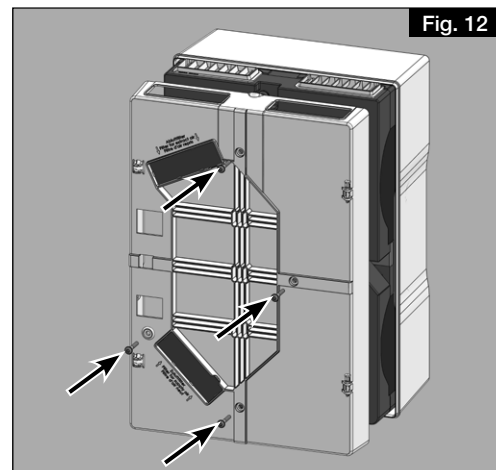

Fig. 12
7. Fasten the panel frame to the unit housing using four screws (see Fig. 12).